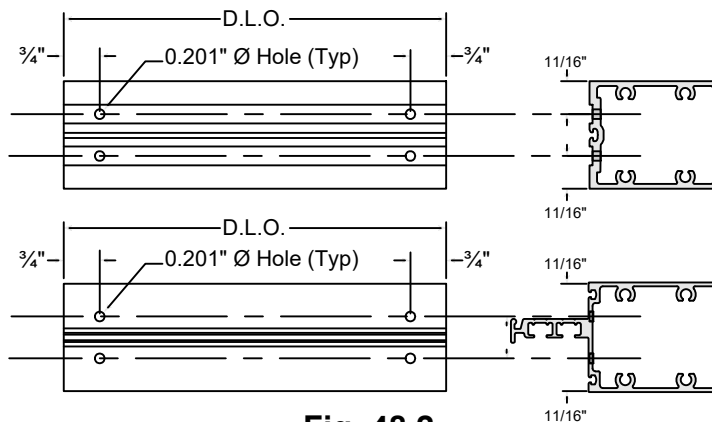

Fig. 48.2
A. For SSG mullions, shear block assembly must be used. Drill 0.201" diameter holes in horizontal members as shown. See Fig. 48.2